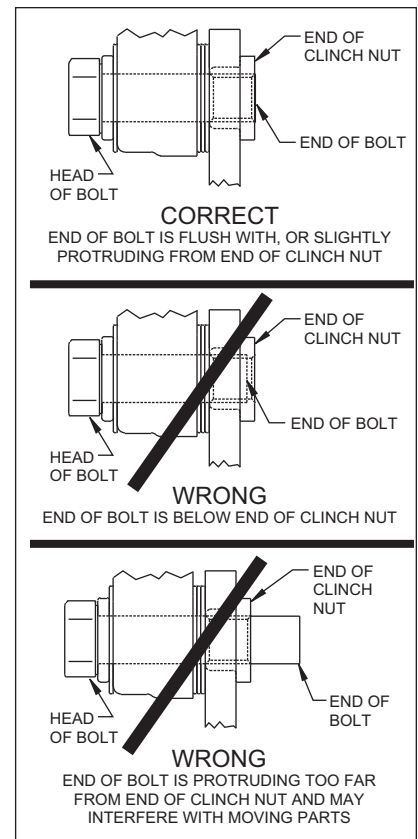

Figure 4.
•**NOTE:** Please reference the caution statement at the beginning of the assembly instructions. Mount the caliper (8) onto the caliper mounting bracket (1) using two bolts (9) and two washers (10). View the rotor (4) through the top of the caliper (8). The rotor (4) should be aligned in the center of the caliper (8). If not, loosen the two bolts (9) and adjust the caliper (8) by using 0.035 inch thick shim washers (11). The shim washers (11) should be placed between the caliper (8) and the caliper mounting bracket (1). Finger tighten and recheck alignment. Add as many shim washers (11) as necessary to achieve the correct alignment. **NOTE:** The end of the bolt must be flush with or slightly protruding from the head of the clinch nut. See Figure 4. Place spare shims (11) between washer and caliper mounting ear to achieve the proper mounting fastener configuration. Always use the same amount of shims on both the top and bottom caliper mounting bolts (9). Loosen the two bolts (9) and apply red *Loctite*® 271 to bolt threads (9) and torque to 40 ft-lb. Safety wire the two bolts (9).
•Position the Wilwood disc brake pads (12) into the caliper (8) and secure with cotter pin (13). Steel backing plate side of brake pad should face the caliper pistons.